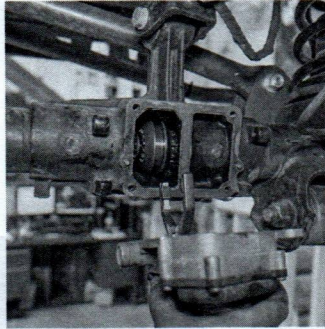

Figure 23. Front Axle Disconnect Motor Reinstallation
28. Re-install the Front Axle Disconnect collar and motor. See Figure 23.